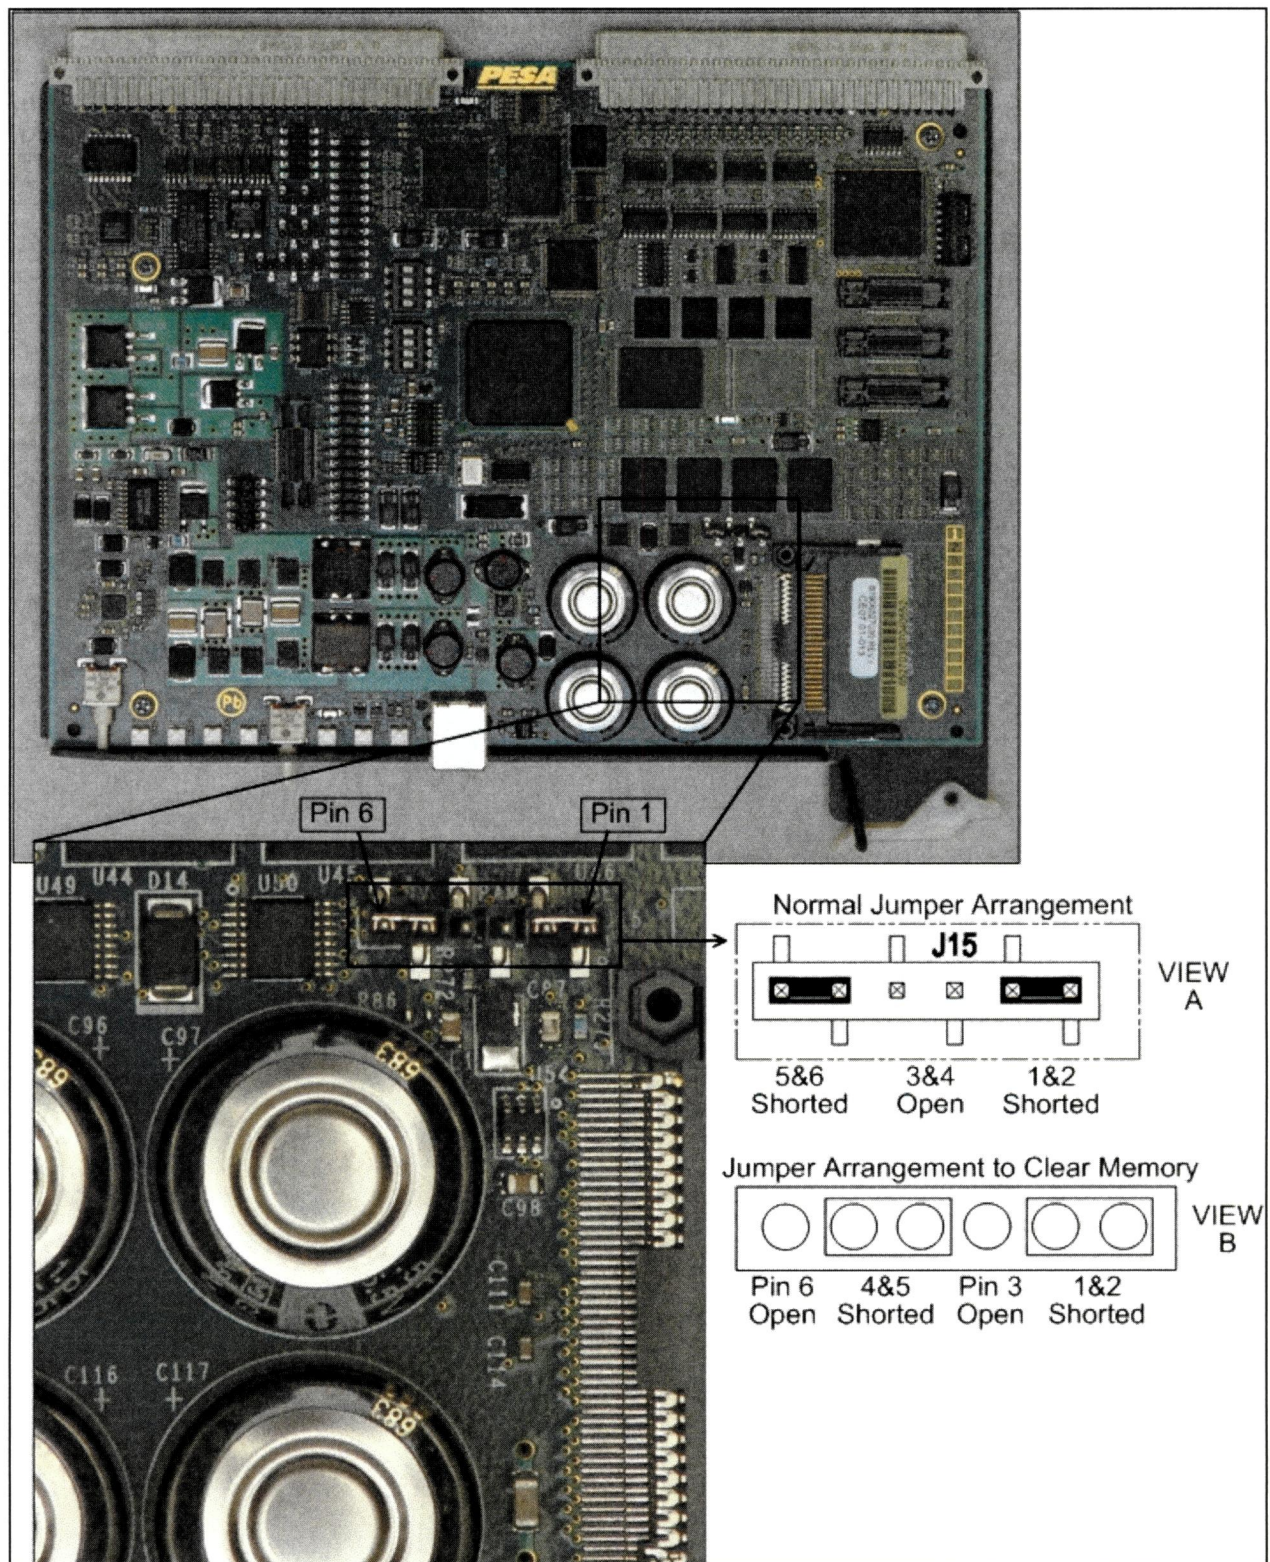

Figure 20. P2K Controller Jumper Location
- ☐ 3. Use Figure 20 as a reference and locate jumper header J15. Orient your P2K board in the same position as the illustration. J15 is a six pin header with pin 1 on the right side and pin 6 on the left, as shown. For normal board operation, a shorting jumper connects pins 1&2 and pins 5&6, View A of Figure 20.
- ☐ 4. Remove the left side shorting jumper from pins 5&6, and install on pins 4&5 as shown in View B of Figure 20.